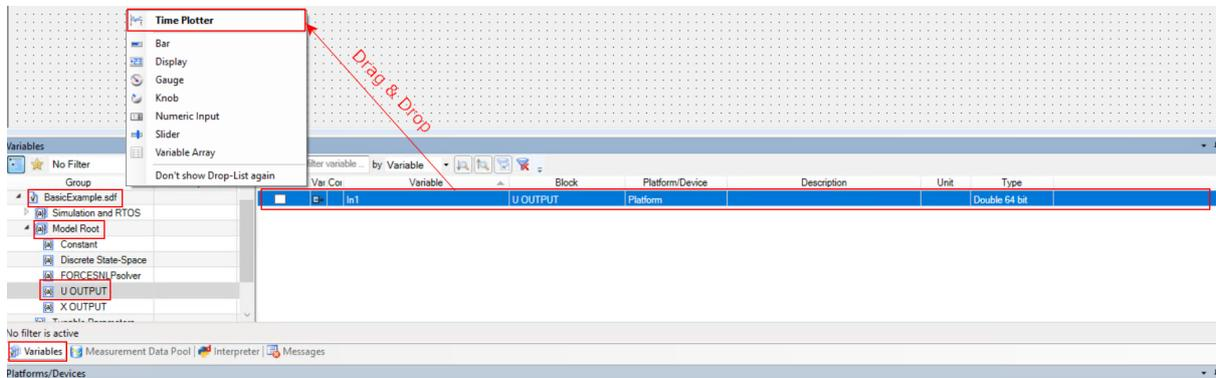
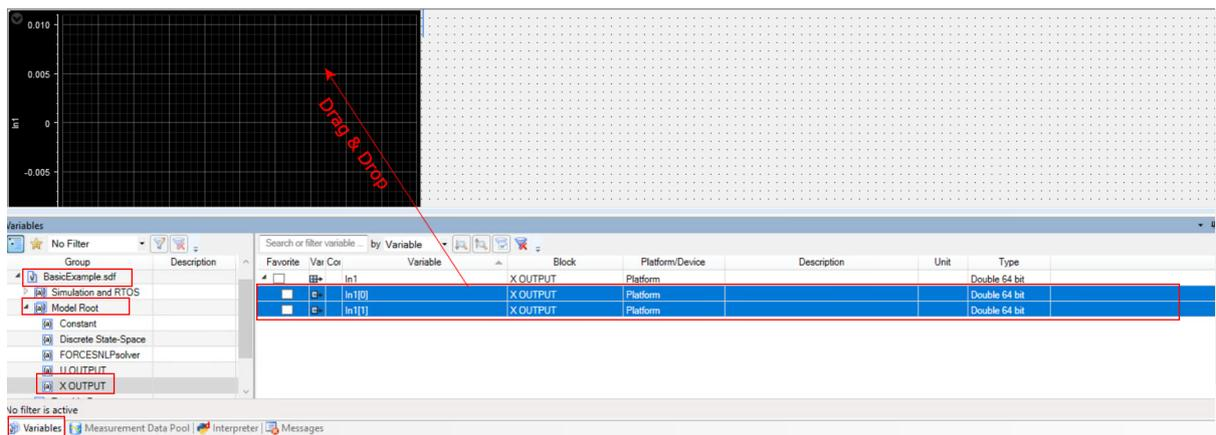

Figure 13.53: Add the inputs of U OUTPUT in a Time Plotter.
Figure 13.54: Add the inputs of X OUTPUT in the same Time Plotter.
- 7) Select `U OUTPUT` and `X OUTPUT` and Drag & Drop all the input variables together to the Layout. In the opened menu select `Time Plotter` (see Figure 13.53 and Figure 13.54).